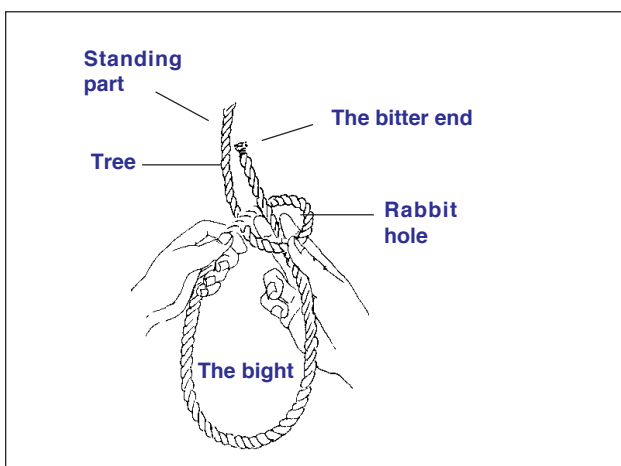

Figure 12.1 Imagine the knot as a tree and a rabbit hole
1. Imagine the knot as tree, a rabbit and a rabbit hole. The loop you make could be called the rabbit hole and the end of the rope as indicated in Figure 12.1, the tree, around which the rabbit runs.